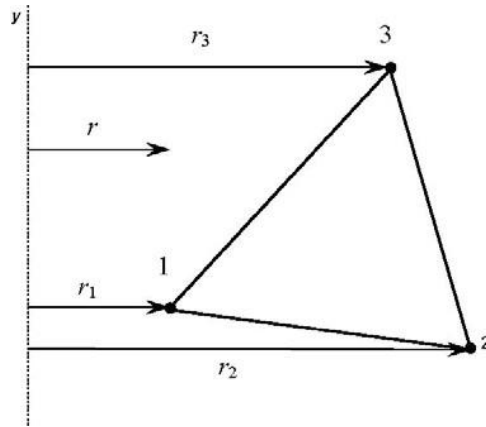

Figure 3
- c) Evaluate the axisymmetric stiffness matrix \mathbf{K} of the triangular element shown in the figure 3. Consider the coordinates of nodes as 1 (2, 1), 2 (4, 0), and 3 (3, 2). Also assume $E = 2.6$ GPa and $\nu = 0.2$. (15)